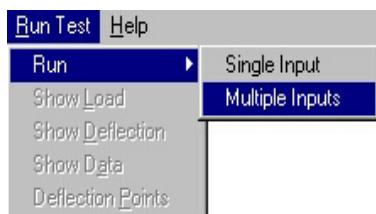

Figure 3.28. Run Test Menu, Run Multiple Inputs
1. For multiple input files, select Run and then Multiple Inputs (Figure 3.28)